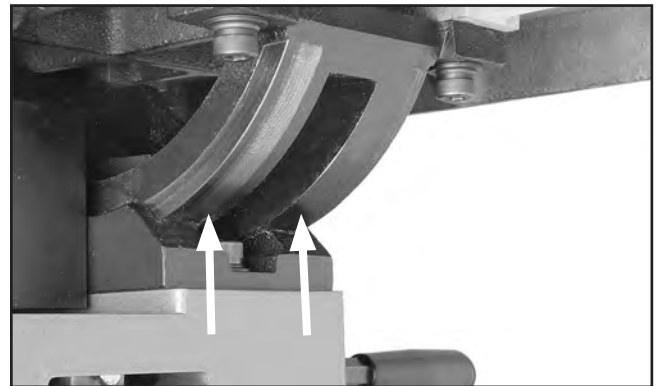

Figure 57. Trunnion lubrication location.
3. Apply a thin coat of light all-purpose grease to trunnions (see **Figure 57**).